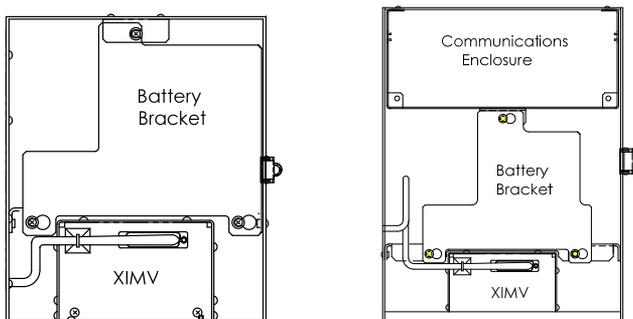

Figure 6. Battery Compartment
- 3B** Remove the unit's battery cover plate, and insert the battery pack (See Figure 6). Insert the battery pack with its long dimension facing outward. When the cover is reinstalled, it will fit snugly against some battery packs. The screws can be loosened to accommodate large batteries.